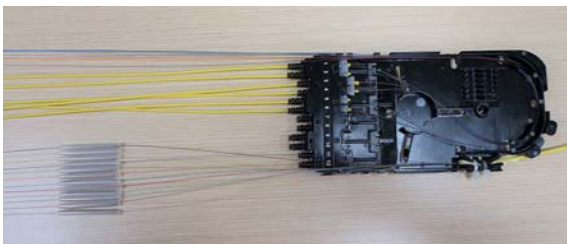

Figure 17. Splice Protectors
17. Install splice protectors (provided) on all fibers being spliced. Protectors should be 40 mm maximum length (Figure 17).